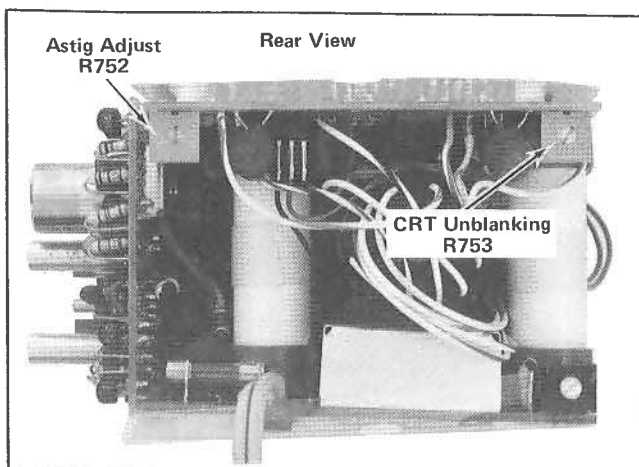
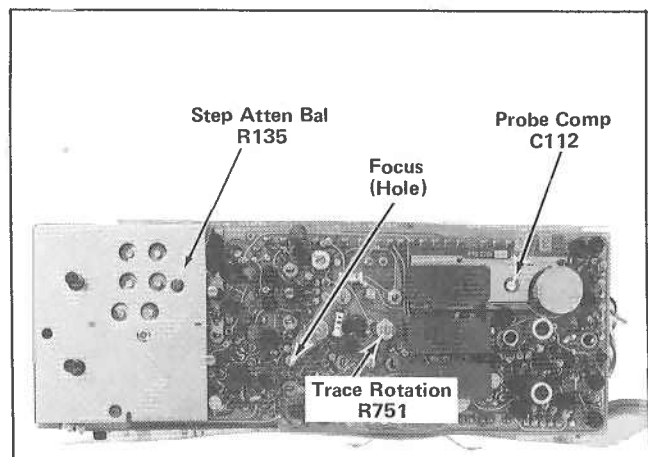

Fig. 5-3. Location of Astigmatism and CRT Unblinking adjustments.
Fig. 5-4. Location of Step Attenuator Bal, Probe Compensation, and Focus adjustments.
Preset the controls as given in the Preliminary Control Setting. See Fig. 5-3 and Fig. 5-4 for locations of adjustment controls.
- d. Adjust Trace Rotation R751 (screwdriver adjustment on sidepanel) for a trace that is parallel with the horizontal graticule lines. See Fig. 5-4.
- b. Adjust unblinking adjustment R753 (see Fig. 5-3) so that retrace is just blanked out.
- e. Adjust the STEP ATTEN BAL adjustment, R135, for a trace at the horizontal center line. See Fig. 5-4.
- f. Adjust C112 for the best square-wave display (flat top). See Fig. 5-4.